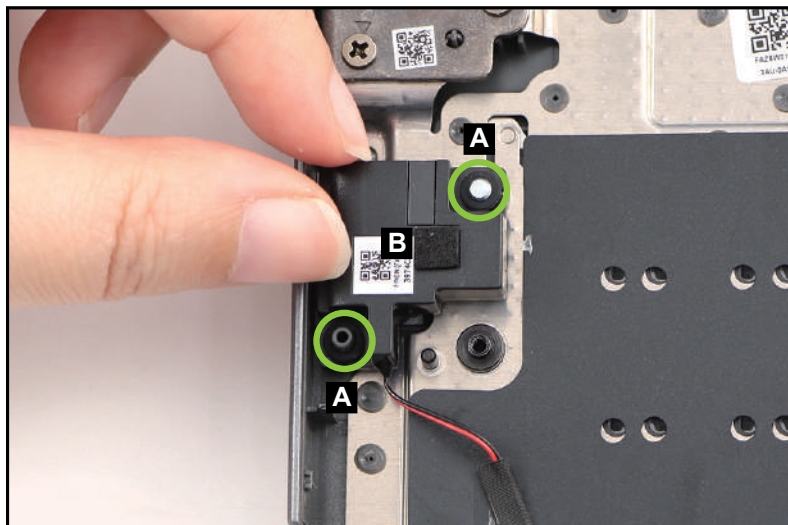

Figure 3-115. Replacing the Right Speaker
1. By aligning with the guide pins (A), install the right speaker (B) onto its compartment on the top assembly (Figure 3-115).